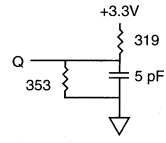

Fig. 2 OUTPUT LOAD EQUIVALENT
- tHZCE, tHZOE and tHZWE are specified with CL = 5pF as in Fig. 2. Transition is measured ±200mV from steady state voltage.